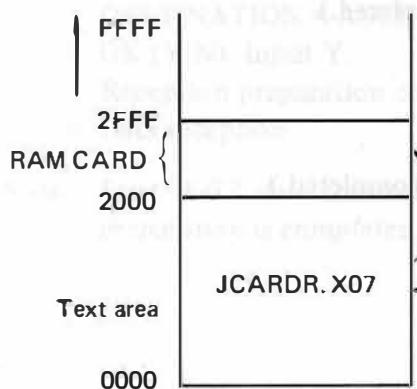

Fig. 1
2. Transfer the CARD1. MID from the AS-100. (See Figure 1 for details.)